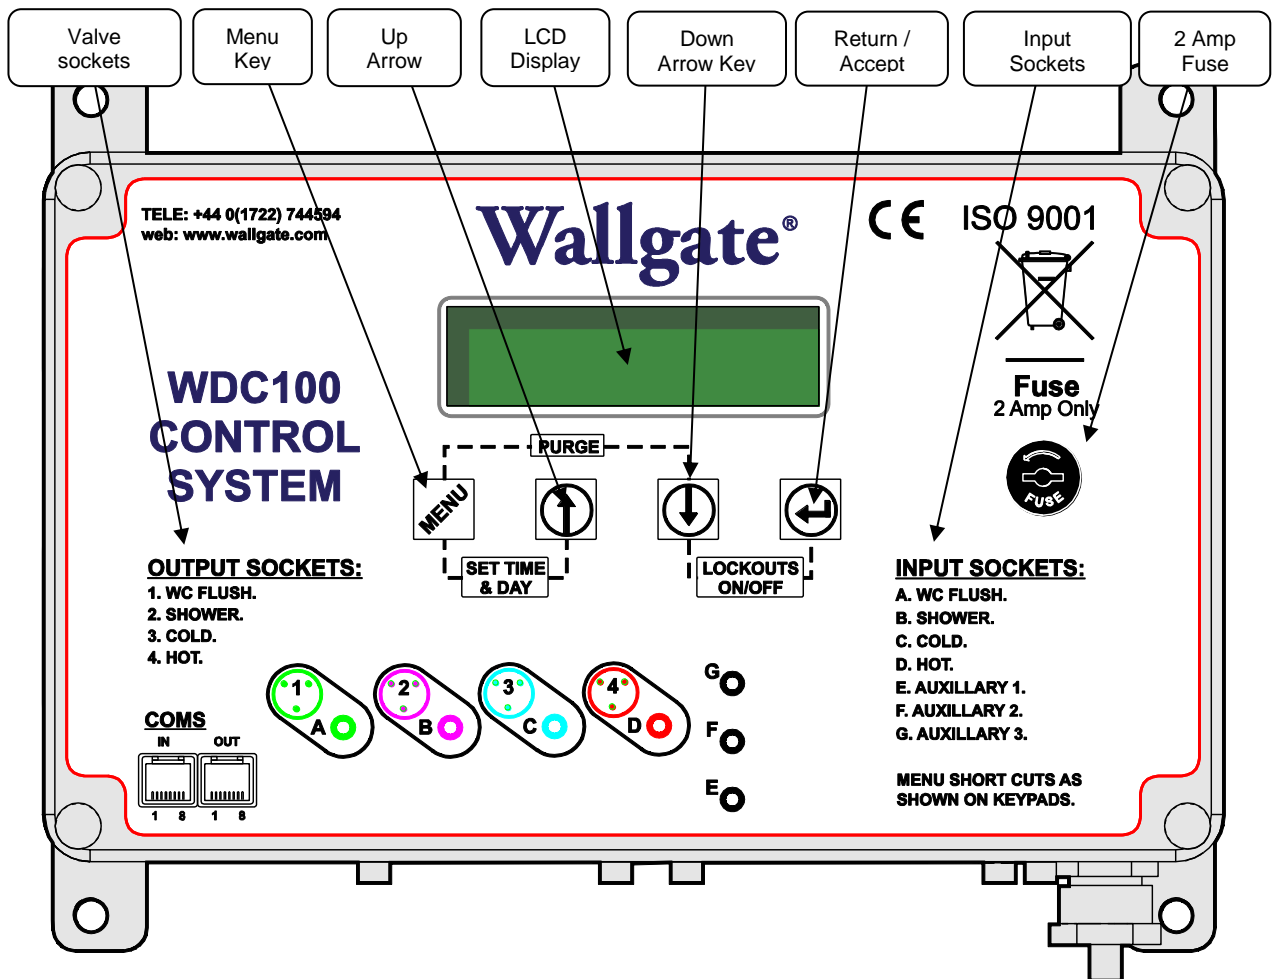

Figure 3. Front Panel WDC100
1. Mark the attachment points for the control unit on the wall. Make sure the cables from the solenoid valves and piezo touch buttons are of sufficient length to reach the control unit. Refer to **Figure 3** for the location of the mounting feet.
All the switches and the menu display is located on the front panel of the WDC100 control unit. Refer to **Figure 3** below for an illustration of the WDC100 front panel.
4. Start the **Purge Cycle** by pressing and holding down the  and  keys simultaneously for five seconds. Refer to Figure 3 on page 14 for a picture of the front panel. The words **Chlorine Purge** are displayed along with the countdown clock.